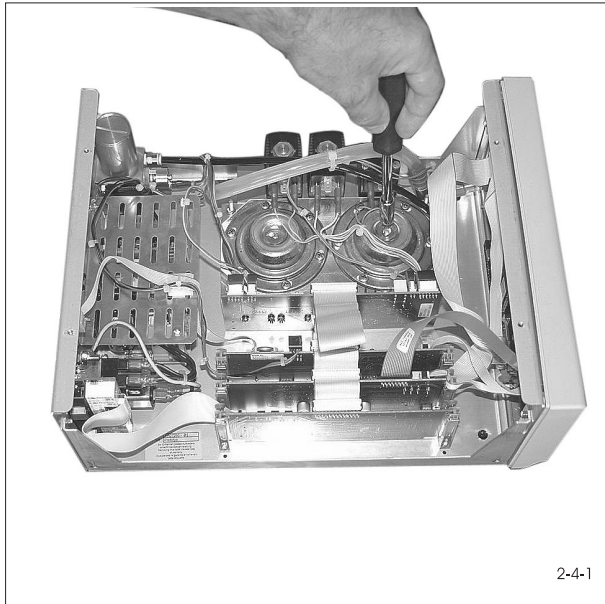

Fig. 2-4-1: F105 Low Pressure Controller Settings
2. In the service menu, open the “LPR Adjust” menu option and check the settings. (Adjust with adjustment screw, Fig. 2-4-1)